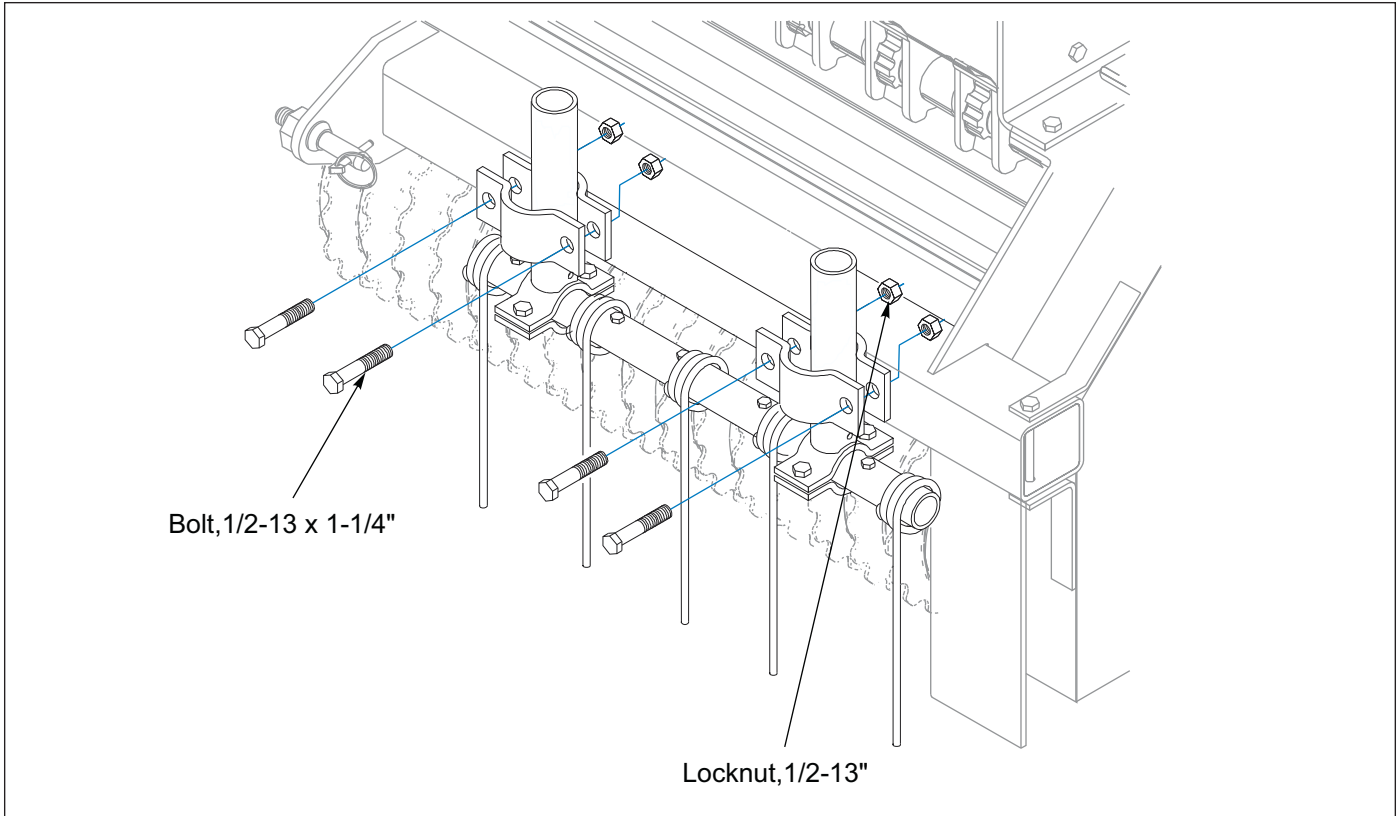

Figure 3-8: Wheel Track Remover
The depth of the wheel track removers can be adjusted. Loosen the (4) 1/2-13 X 1-1/4 bolts, and nuts that secure the clamps to the coil tine supports. Adjust the supports up or down to the desired depth and then retighten the nuts on the bolts. Do this for each pipe and tine assembly. **See Figure 3-8.**